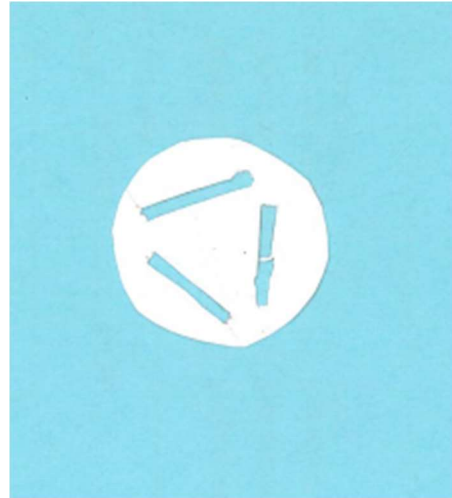

Figure 3: Left: The template and scalpel used for incising the stopper. Right: actual size of the template.
3. To a pre-washed new platinum-cured silicone #6 stopper, incise three slits (approximately 1 cm deep in a triangle formation, Figure 3) (click here for video). Fill each slit with one of the three metal coupons. Insert the stopper into the mouth of the jar.